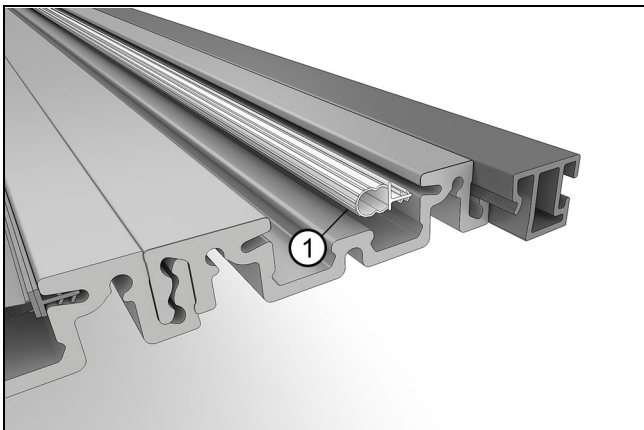
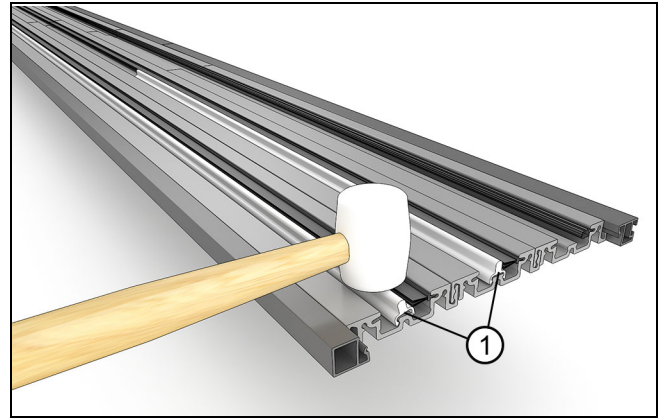
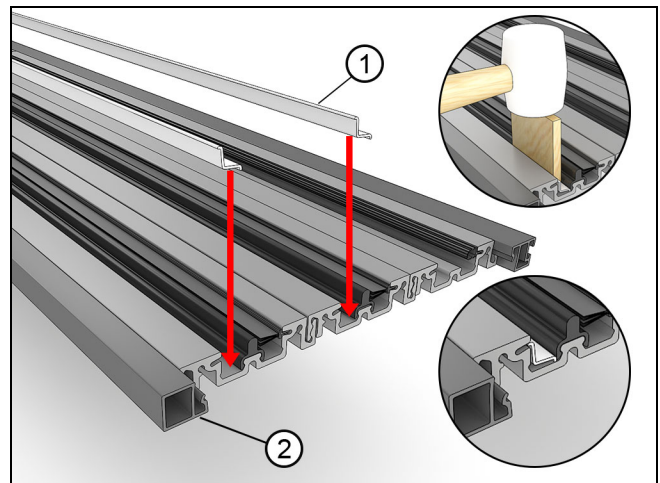

Figure 26
Figure 27
Figure 28
11. Where required, add the roller track, weather strip and sill slot covers over the spliced sections. See Figure 26, Figure 27, and Figure 28.